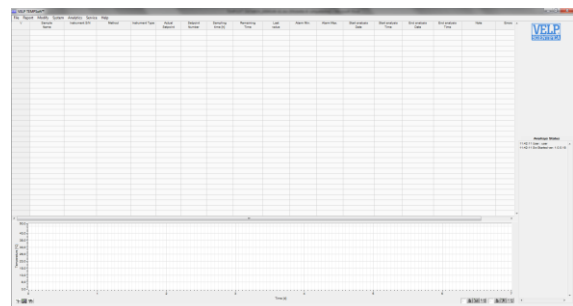

Fig. 3
6. The main window will appear (Fig. 3).